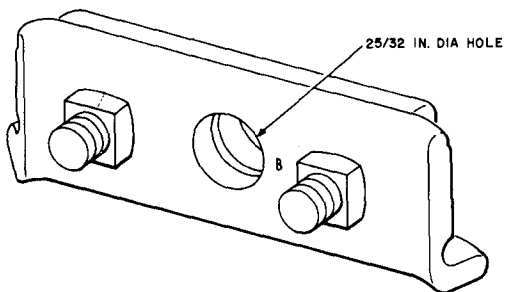

Fig. 6—B Corner Suspension Clamp
5.03 The B corner suspension clamp (Fig. 6) is used to support suspension strand: